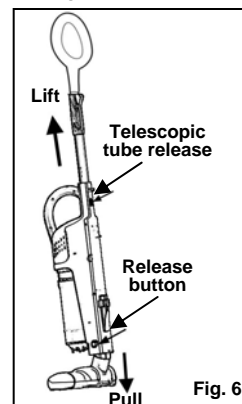

Fig. 6
1. Press the telescopic release button to remove the telescopic tube. (Fig. 6)
2. Press the floor brush release button and remove the motorized floor brush. (Fig. 6)